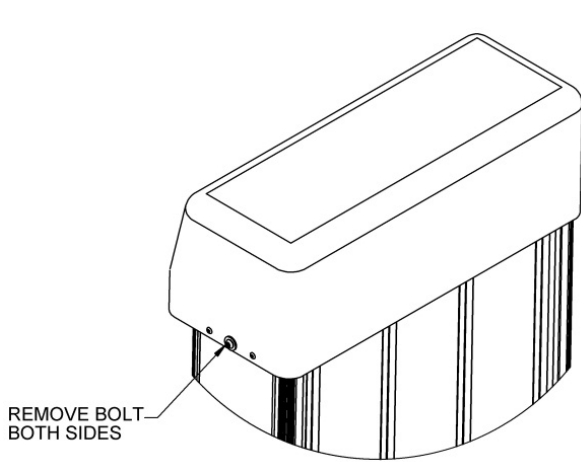

FIG. 17.1
4. Remove the power head cover from the top of the VPL tower by removing the bolts on both sides of the cover (FIG. 17.1).